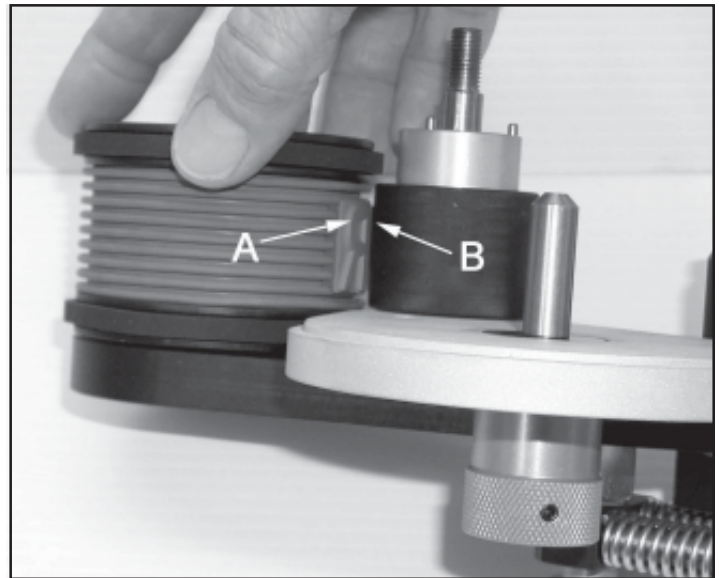

FIGURE 41
**3 - Rotate the print drum until one of the characters "A" is centered against the transfer roll "B" as shown in Figure 41. Gently slide the inking system towards the print drum, applying a minimal amount of force. While holding the inking system in position, lightly tighten the 2 Inking System Mounting Screws.**